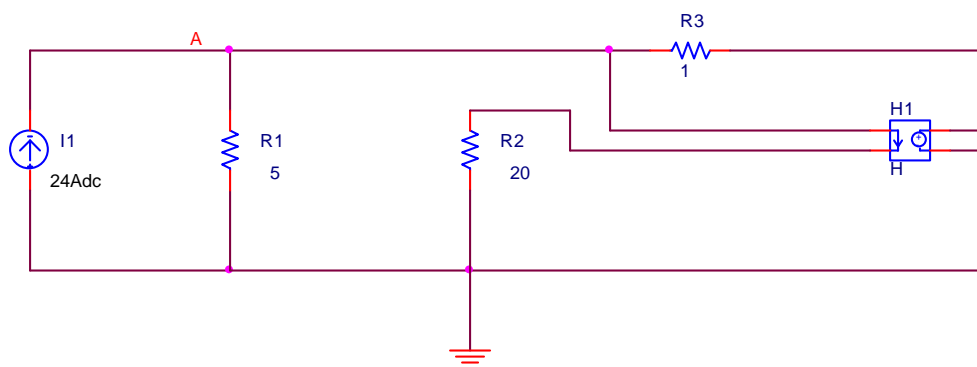

Figure 2.2 – Circuit showing the proper connections needed for simulation.
3) In connecting the part “H”, it may help to use the "zoom" feature in the "view" of the top toolbar. The + and – inside the circle are used to wire the component into the circuit between the 1 ohm resistor and the ground node (+ to + and – to -). The current part (arrow) is used to link the current on which the source depends and is wired such that it is in the direction shown in the Figure 2.2. In this example, the current runs through the resistor R2 to the ground.
6) If there is trouble with the simulation carefully review all connections as given in Figure 2.2.